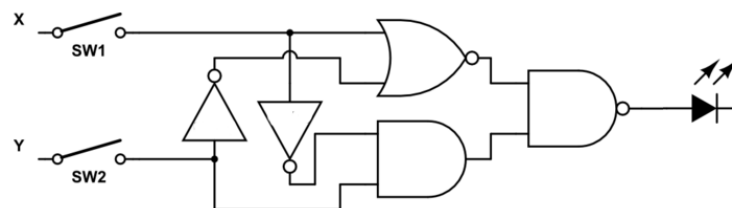

Figure 8: Circuit for activity 1
Implement the hardware from the circuit in Figure 8. The inputs should come from SW(1) and SW(2) and the output should be shown on any of the available LEDs. Use the implemented circuit to test and create a truth table with your results and place it within a comment in the program file.